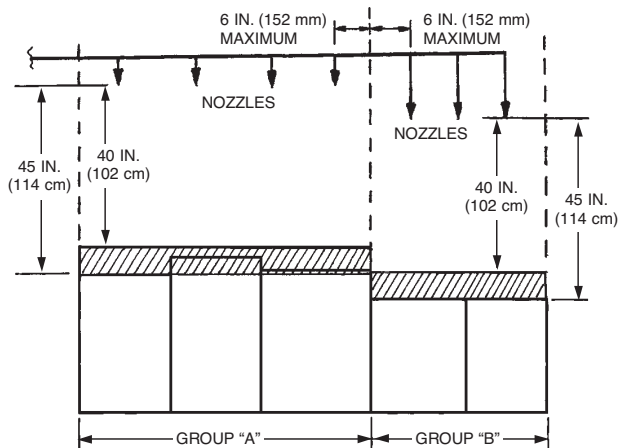

FIGURE 79
4. On protected appliances, all hazard surfaces located in a group must be within 40-45 in. (102-114 cm) from the nozzle(s). Once that dimension is exceeded, a new group must be started. See Figure 79.